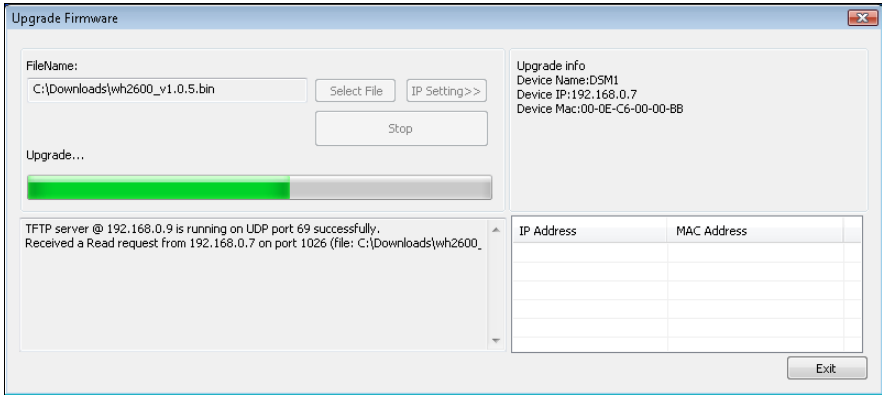

Figure 33
5. Select the Upgrade **Firmware** button. Reference Figure 33. The dialog box will display **Received a Read Request** from the device. A green progress bar will provide you with the upgrade status.